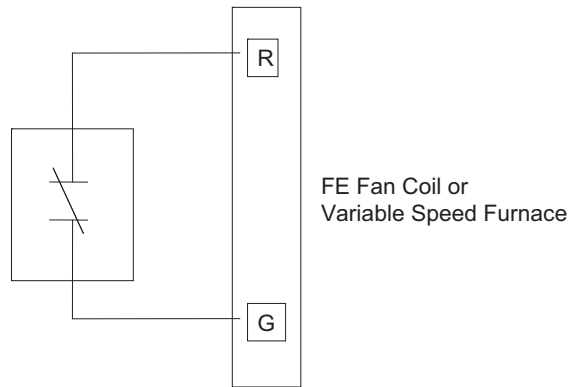

Fig. 27 - G Input Wiring for System Shutdown with Infinity™ Control (Contact type selectable; Normally Closed (default) or Normally Open)
- SHUTDOWN - shuts off fan and equipment when initiated. This function is not intended for emergency fire shutdown. It may be activated by a dry contact from an external device such as a float switch or a relay. User Interface displays SYSTEM MALFUNCTION on screen and registers G terminal shutdown event in Last 10 System Events. See Fig. 27.
- SHUTDOWN - shuts off fan and equipment when initiated. This function is not intended for emergency fire shutdown. It may be activated by a dry contact from an external device such as a float switch or a relay. User selects whether the contact is NC - normally closed (default) or NO - normally open. User Interface displays SYSTEM MALFUNCTION on screen and registers G terminal shutdown event in Last 10 System Events. See Fig. 27.